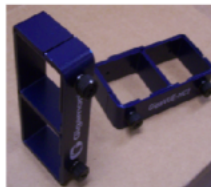

Figure 6 GigaVUE-HC2 Cable Management Assembly and Rack Ear
- a. Locate the cable management assembly (Figure 6 GigaVUE-HC2 Cable Management Assembly and Rack Ear).